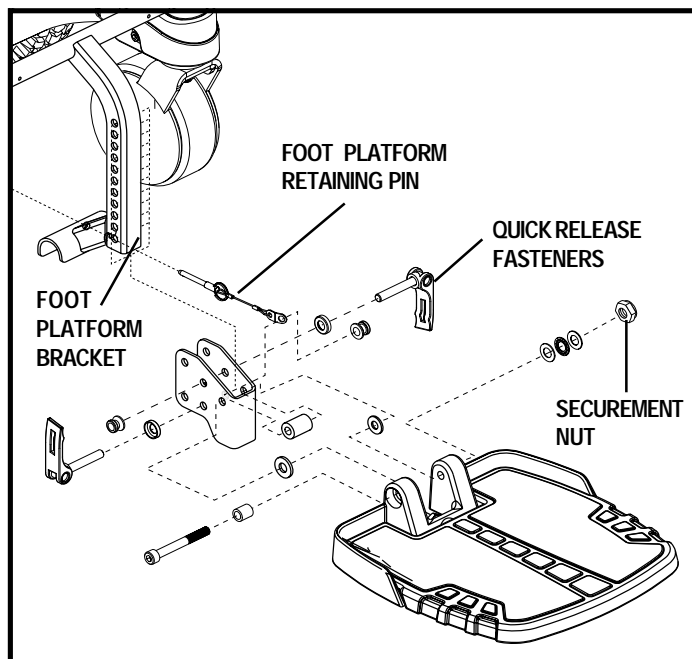

Figure 17. Foot Platform Adjustment
1. Remove the quick release fasteners from the foot platform bracket. See figure 17.
You can adjust the angle of the foot platform with a hex key. See figure 17.